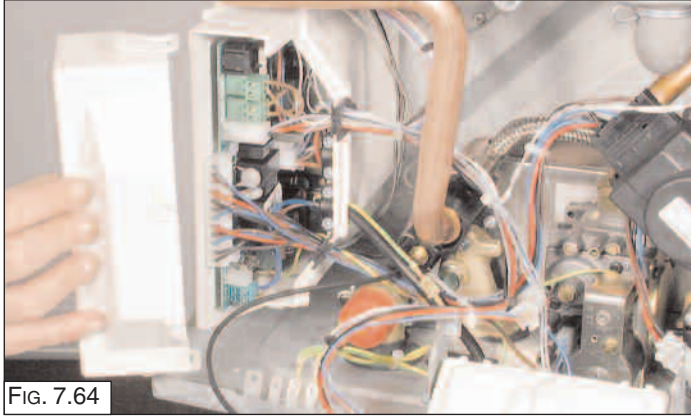

FIG. 7.64
1. Remove the inspection cover of the PCB box (FIG. 7.64);